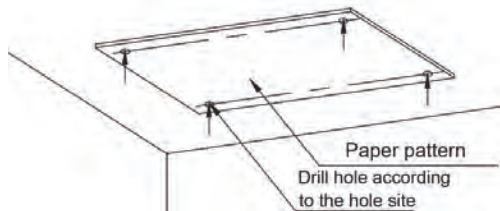
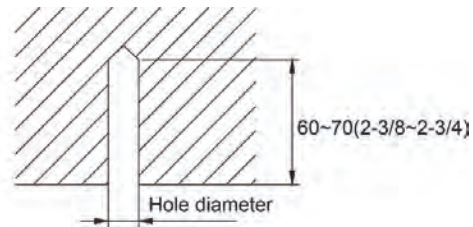

Fig 1
Fig 2
1. Stick the reference cardboard on the installation position; drill 4 holes according to the hole site on the cardboard as shown in fig 1. ; diameter of drilling hole is according to the diameter of expansion bolt and the depth is 60-70mm(2-3/8~2-3/4 in.), as shown in fig 2.